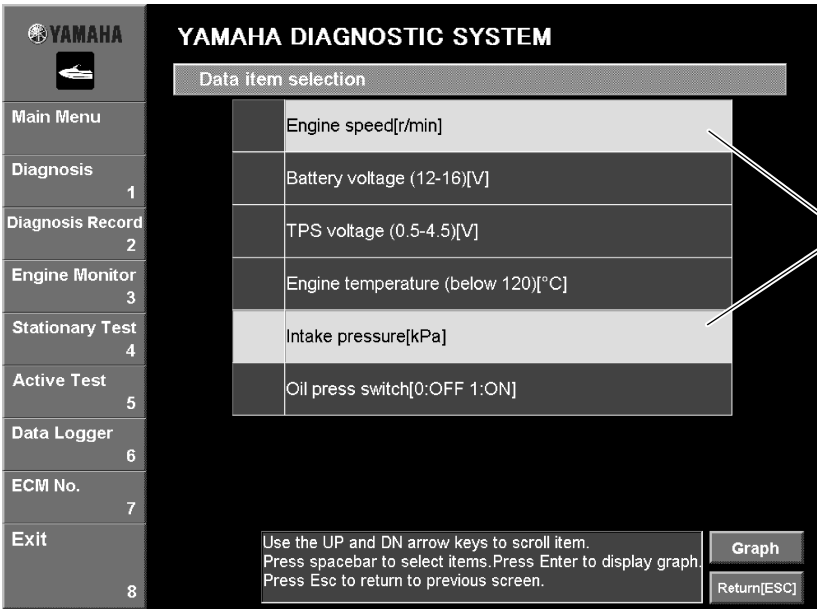
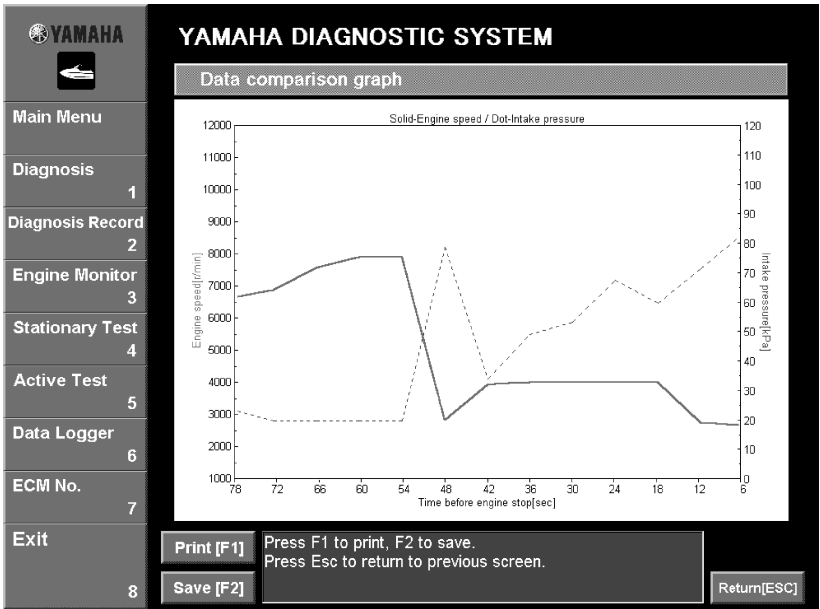

Fig. 60
Fig. 61
- 1. Select the desired items by either clicking them or pressing the up or down arrow keys on your keyboard, then pressing the space bar. (Fig. 60)
- 2. Click the **Graph** button or press the Enter key on your keyboard. (Fig. 60) The **Data comparison** window is displayed. (See fig. 61.)
A line graph appears with the items selected in the **Data display item selection** window on the vertical axes and the **Time before engine stop** on the horizontal axis. (Fig. 61)